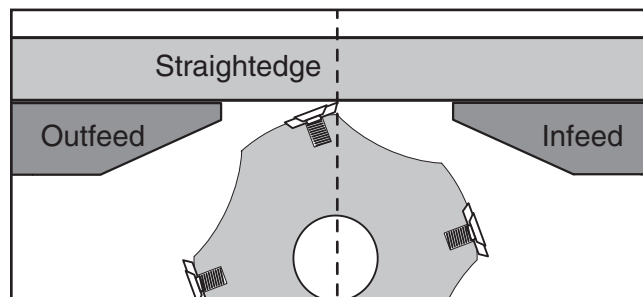

Figure 47. Infeed table even with outfeed table.
- Adjust infeed table until even with outfeed table, as shown in **Figure 47**.